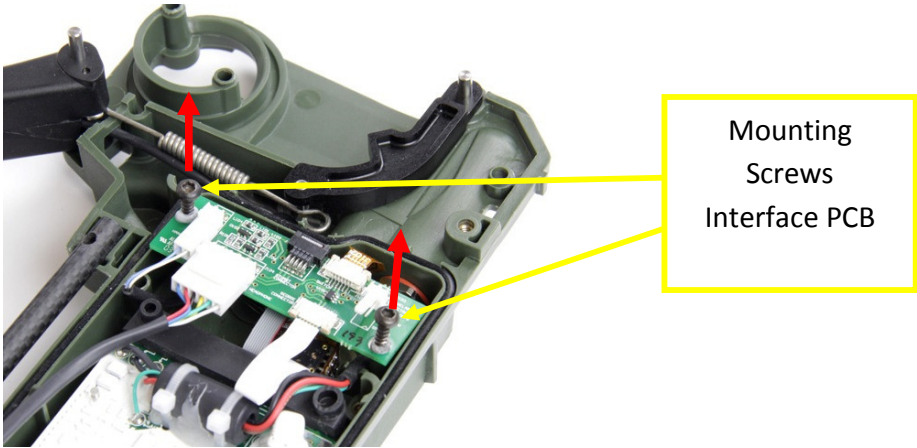

Figure 34: Interface PCB
- Remove the two (2) Screws (12mm) from the interface PCB. Figure 34.